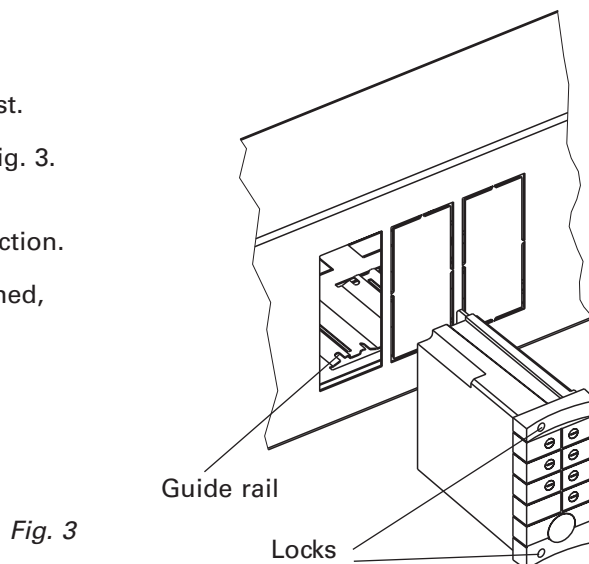

Fig. 3
- Insert module on the guide rail into the section – Fig. 3.